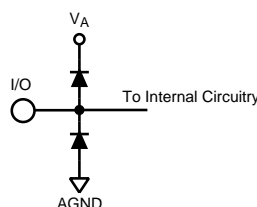

Figure 2.
- (1) The inputs are protected as shown below. Input voltage magnitudes above V_A or below GND will not damage this device, provided current is limited per Note 4. However, errors in the A/D conversion can occur if the input goes above 2.6V or below GND as described in the Operating Ratings section. See Figure 2.
- (2) With a full scale differential input of $2V_{P-P}$, the 12-bit LSB is $488\text{ }\mu\text{V}$.
- (3) Typical figures are at $T_A = 25^\circ\text{C}$ and represent most likely parametric norms at the time of product characterization. The typical specifications are not ensured.
- (4) The input capacitance is the sum of the package/pin capacitance and the sample and hold circuit capacitance.
- (4) This parameter is specified in units of dBFS - indicating the value that would be attained with a full-scale input signal.
- (2) With a full scale differential input of $2V_{P-P}$, the 12-bit LSB is 488 μV .